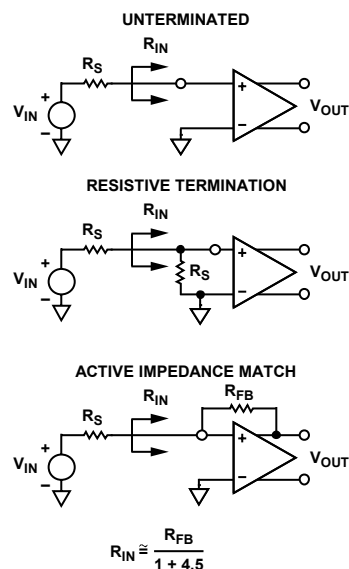
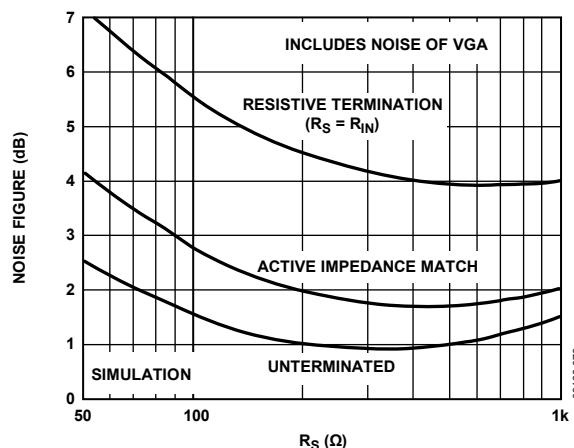
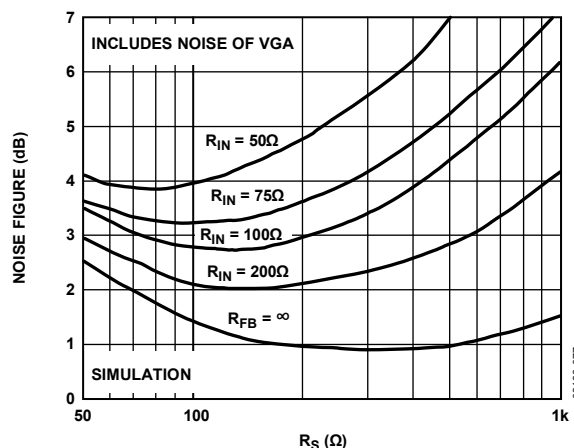

Figure 75. Input Configurations
Figure 76. Noise Figure vs.  $R_S$  for Resistive, Active Matched and Unterminated Inputs
Figure 77. Noise Figure vs.  $R_S$  for Various Fixed Values of  $R_{IN}$ , Actively Matched
The input-referred voltage noise sets an important limit on system performance. The short-circuit input voltage noise of the LNA is  $0.74\text{ nV}/\sqrt{\text{Hz}}$  or  $0.82\text{ nV}/\sqrt{\text{Hz}}$  (at maximum gain), including the VGA noise. The open-circuit current noise is  $2.5\text{ pA}/\sqrt{\text{Hz}}$ . These measurements, taken without a feedback resistor, provide the basis for calculating the input noise and noise figure performance of the configurations in Figure 75. Figure 76 and Figure 77 are simulations extracted from these results, and the  $4.1\text{ dB}$  NF measurement with the input actively matched to a  $50\text{ }\Omega$  source. Unterminated ( $R_{FB} = \infty$ ) operation exhibits the lowest equivalent input noise and noise figure. Figure 76 shows the noise figure vs. source resistance, rising at low  $R_S$ , where the LNA voltage noise is large compared to the source noise, and again at high  $R_S$  due to current noise. The VGA's input-referred voltage noise of  $2.7\text{ nV}/\sqrt{\text{Hz}}$  is included in all of the curves.
The primary purpose of input impedance matching is to improve the system transient response. With resistive termination, the input noise increases due to the thermal noise of the matching resistor and the increased contribution of the LNA's input voltage noise generator. With active impedance matching, however, the contributions of both are smaller than they would be for resistive termination by a factor of  $1/(1 + \text{LNA Gain})$ . Figure 76 shows their relative noise figure (NF) performance. In this graph, the input impedance was swept with  $R_S$  to preserve the match at each point. The noise figures for a source impedance of 50  $\Omega$  are 7.1 dB, 4.1 dB, and 2.5 dB, respectively, for the resistive, active, and unterminated configurations. The noise figures for 200  $\Omega$  are 4.6 dB, 2.0 dB, and 1.0 dB, respectively.
Figure 77 is a plot of the NF vs.  $R_S$  for various values of  $R_{IN}$ , which is helpful for design purposes. The plateau in the NF for actively matched inputs mitigates source impedance variations. For comparison purposes, a preamp with a gain of 19 dB and noise spectral density of 1.0 nV/ $\sqrt{\text{Hz}}$ , combined with a VGA with 3.75 nV/ $\sqrt{\text{Hz}}$ , yields a noise figure degradation of approximately 1.5 dB (for most input impedances), significantly worse than the AD8332 performance.